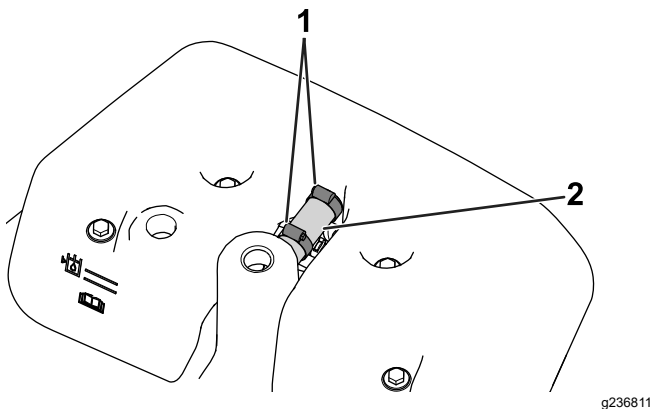

Figure 3
8. If your machine is equipped with an overflow hose, loosen the worm-drive clamps and remove the overflow hose (Figure 3).
1. Remove plug from main-hydraulic tank here. 2. Indicator arrow on nut (2)
16. Use 2 worm-drive clamps to secure the overflow hose to the leak-detector tank and the hydraulic tank (Figure 3).